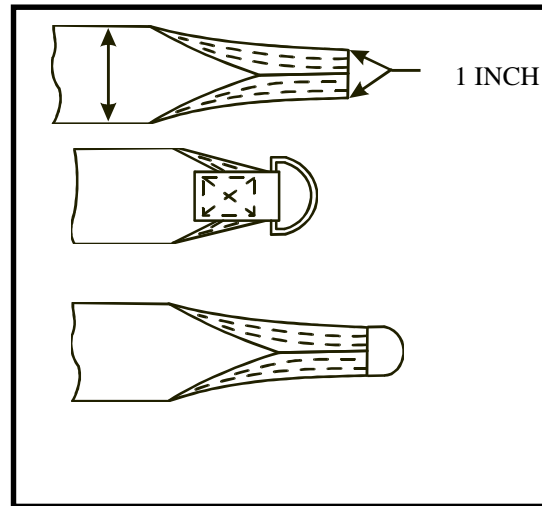

Figure 13-15. Rolled-end strap
b. Rolled-End Strap. A strap with a rolled end (Figure 13-15) is tapered by rolling and folding the edges to the center of the webbing. Both the inner and outer edges are sewn in place. The end of the strap is finished by attaching an end clip, or by looping it through a piece of hardware, turning under the raw edge, and sewing it in place to the strap. If a 2-inch-wide strap is tapered to a 1-inch end, the taper should be about 2 1/2 inches long.